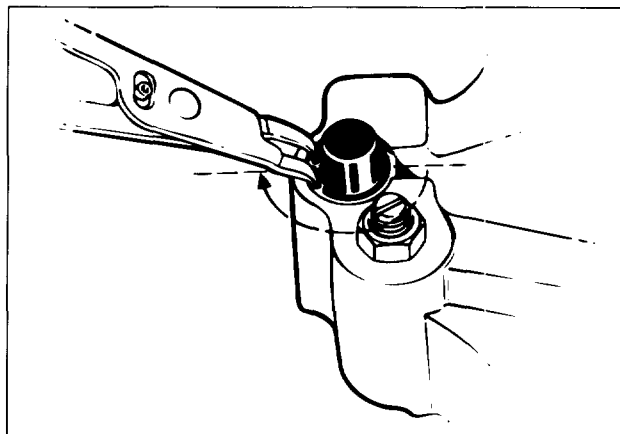

FIG. 2
7. Rotate the retaining ring so that the ears are located away from the slot in the housing (see Fig. 2).